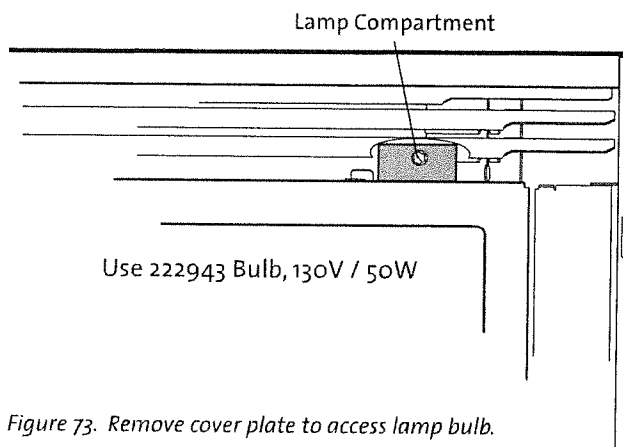

Figure 73. Remove cover plate to access lamp bulb.
1. Remove lamp compartment cover plate. See fig. 73.